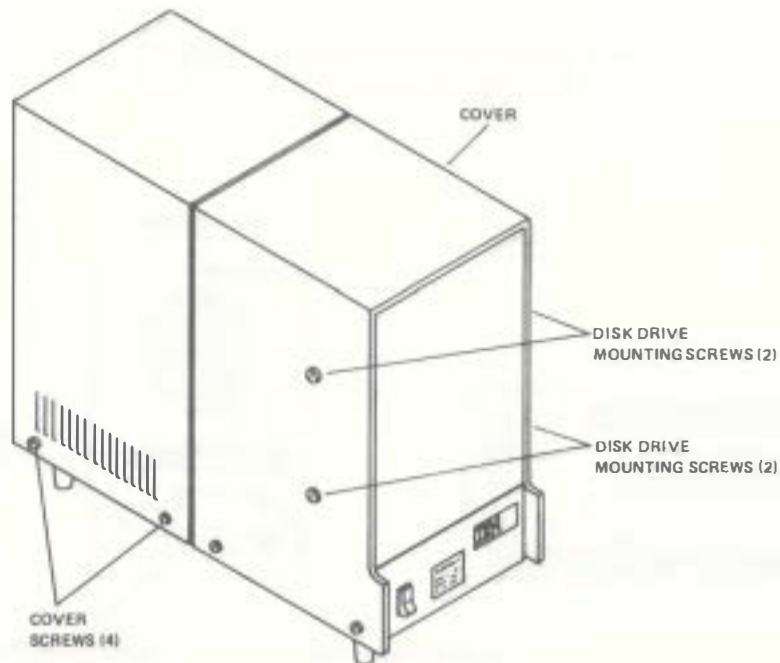

Figure 5-32. Hard Disk Drive Assembly (Side View)
4. Remove the four screws securing the disk drive assembly's cover. Remove the cover. See Figure 5-32.
6. Remove the two screws securing the disk drive to the housing. See Figure 5-32.
2. Secure the disk drive to the housing with the two screws. See Figure 5-32.
5. Replace the disk drive assembly's cover and secure it with the four screws. See Figure 5-32.